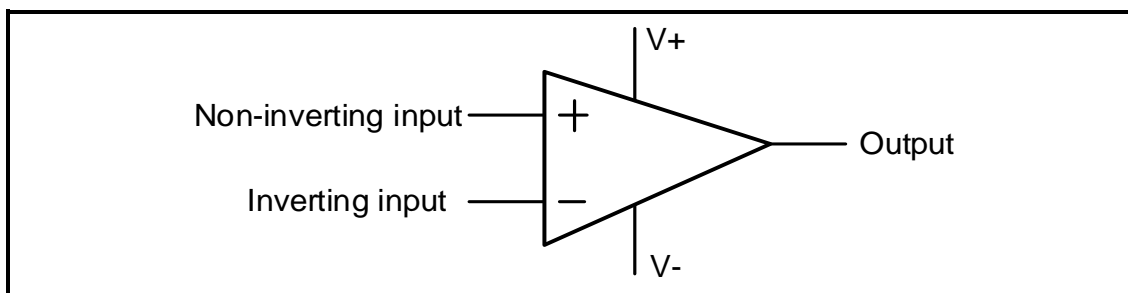

FIGURE 3.1: OP AMP
3.1 Refer to FIGURE 3.1 below and answer the questions that follow.